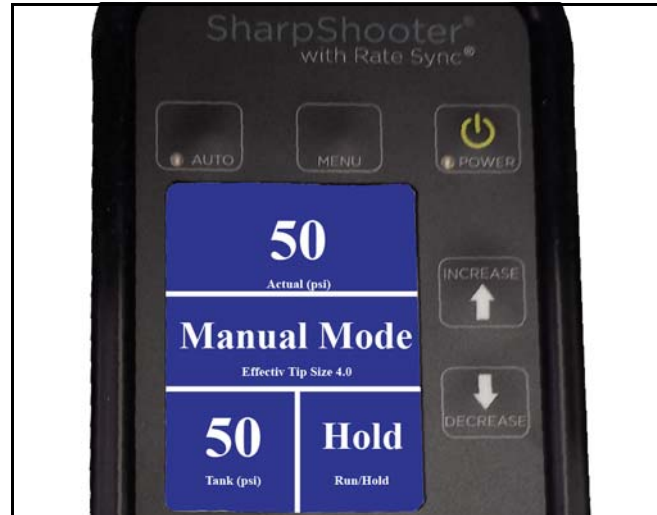

Figure 30
1. **[Figure 30]** - Turn on the display. It will default to the Manual Mode. A red light in the lower left corner of the power button will illuminate showing a properly working display.